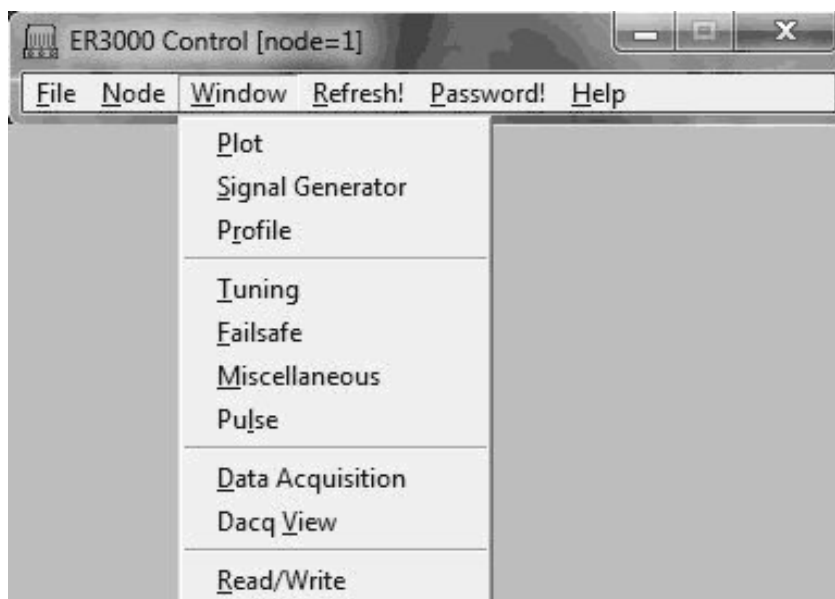
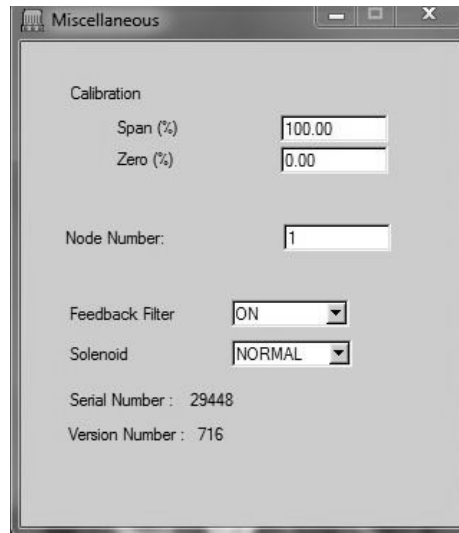

Figure 8 Window Drop Down Menu
Figure 10 Miscellaneous Table
See Figure 8 through Figure 10.
2. See Figure 8. At the main menu, drop down the *Windows* menu, and select *Tuning*.
7. See Figure 10. In the *Miscellaneous* window, adjust the settings as follows: